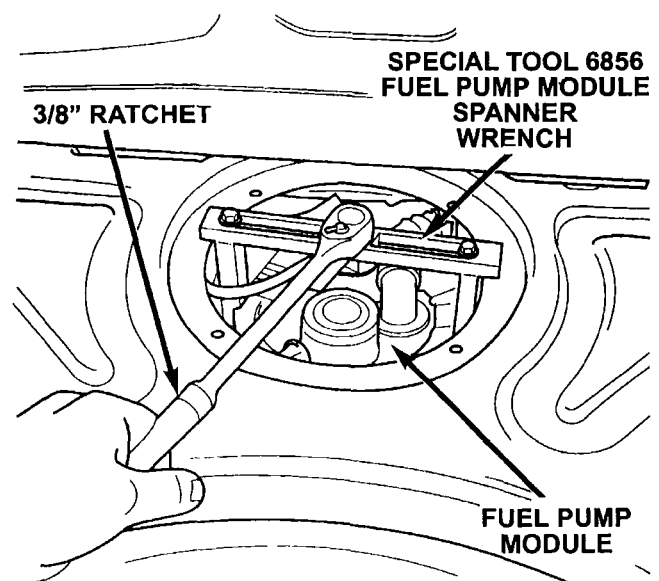

Figure 25
30. Using Special Tool #6856 - Fuel Pump Module Spanner Wrench, remove the fuel pump module lock ring (Figure 25).